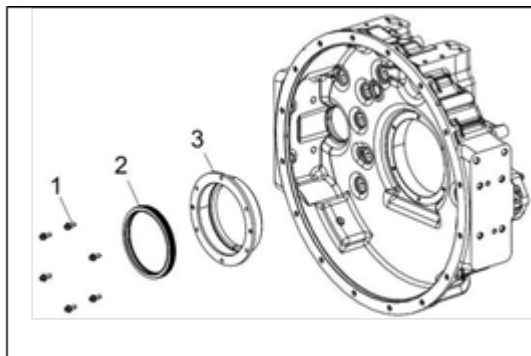

Figure 112.
6. Disassemble the rear oil seal (Figure 112, item 2) from the rear oil seal seat (Figure 112, item 3).